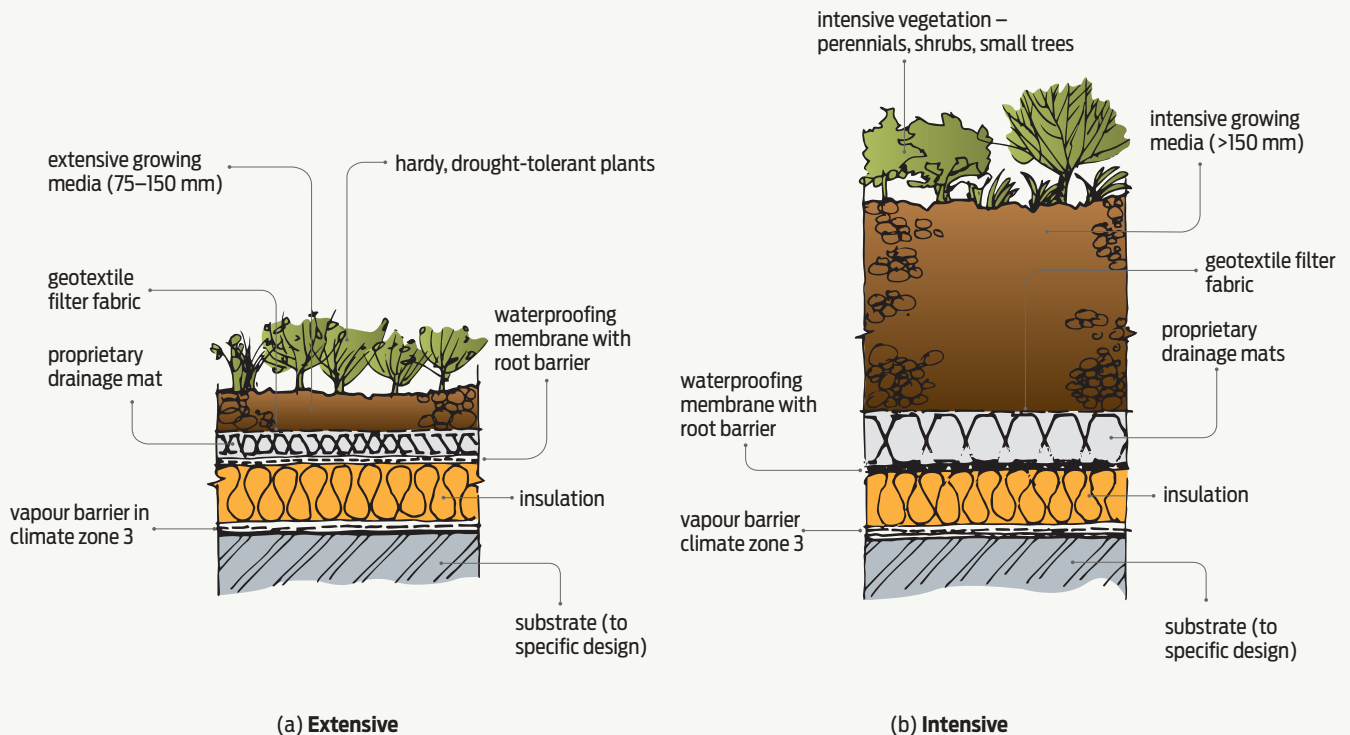

Figure 1 Typical warm green roof construction.
shallow growing medium, ranging between 75–150 mm deep with a weight of 75–150 kg/m² (see Figure 1(a)). This means they can be supported by a specifically designed light structure, making them reasonably economical. However, the thin layer of growing medium does not allow for water storage, so plants must be selected for hardiness and drought tolerance.
- Intensive green roofs – these have a deeper growing medium, ranging between 200–300 mm, and the weight may exceed 240 kg/m² (see Figure 1(b)). The increased ➤